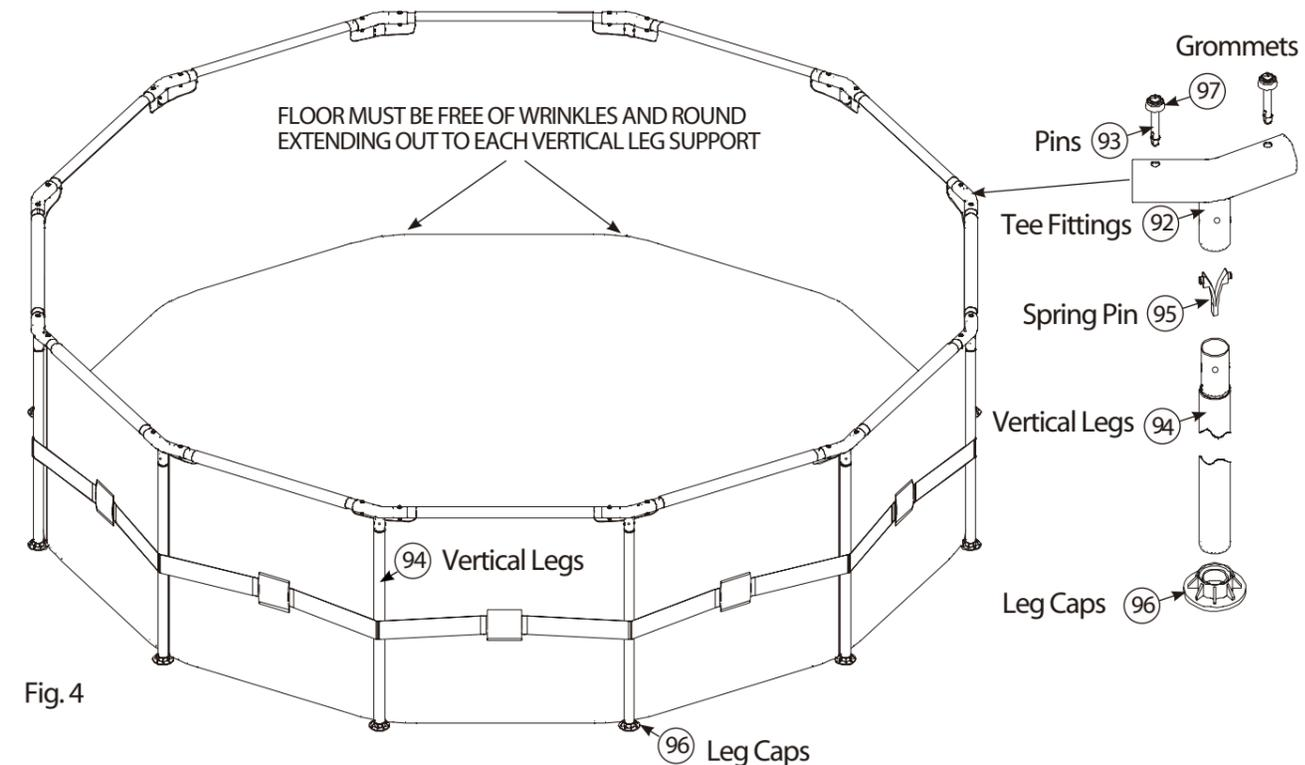

Fig. 4
- Once the top frame is assembled, locate the vertical legs (94). The vertical leg sections will have a spring pin (95) pre-installed at the top end. First, insert the leg down through the belt that runs around the middle of the pool, see Fig. 4. Now, to connect them into the top frame, push the buttons in as you insert the leg up into the tee fitting. Look through the hole in the fitting as you insert and rotate the pipe until the buttons align with the holes and pop out, locking the leg in place. Finally, take one of the leg caps (96) and insert the bottom of the vertical leg into it until it stops.
- Make sure the drain fitting is plugged securely and the cap is in place. Start filling the pool with water. After about 1-inch of water is on the bottom, stop filling and smooth wrinkles out of the bottom of the pool making sure the bottom of the pool is flat and round equally in all directions. See Fig. 4.